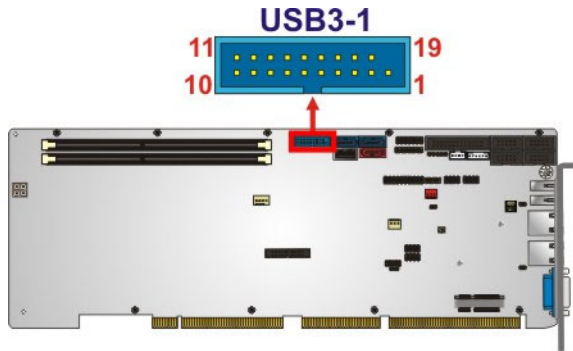

Figure 3-31: USB 3.0 Connector Location
- CN Location:** See **Figure 3-31**